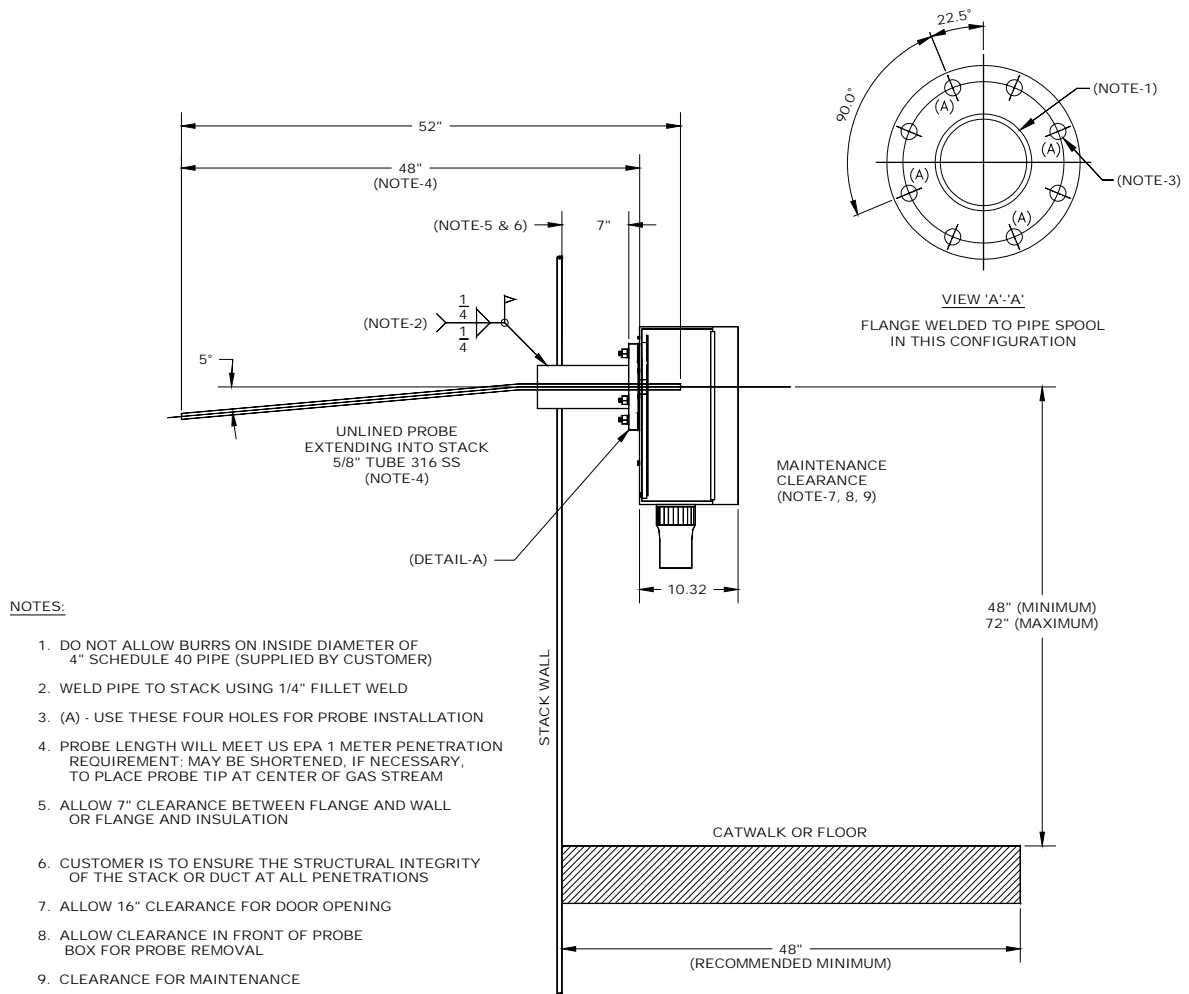

Figure 3.1-1 PRO3000 Probe Box Installation
The PRO3000 extractive probe conditioning assembly is installed on a four (4) inch pipe flange. The pipe flange must be installed on a pipe nipple extending six (6) inches from the outer wall of the stack. The pipe nipple is used to allow clearance behind the conditioning assembly for installation of the four (4) 1/2-inch X 1 3/4-inch stainless steel mounting bolts. Also allow a clear space, at least the width of the probe enclosure, in front of the enclosure door to allow the door to be opened. The four (4) inch pipe flange must be aligned as shown in Figure 3.1-1. A slip-type pipe flange is recommended to insure that the conditioning assembly can be leveled.